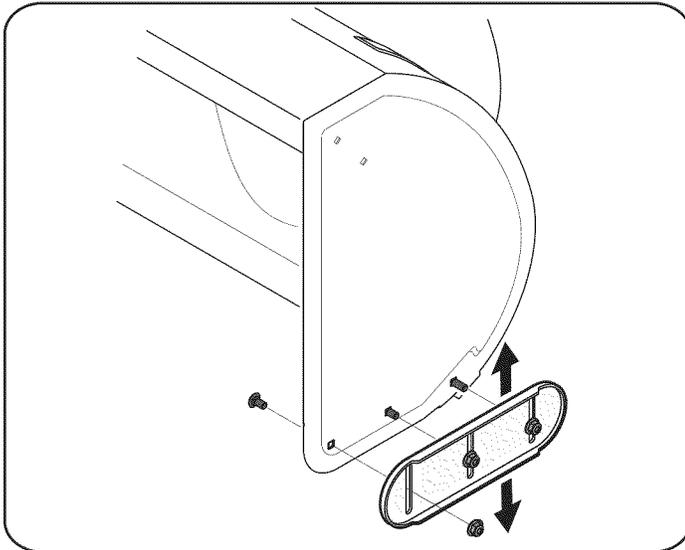

Figure 12
1. Loosen the six hex nuts (three on each side) and carriage bolts. Move skid shoes to desired position. See Fig. 12.